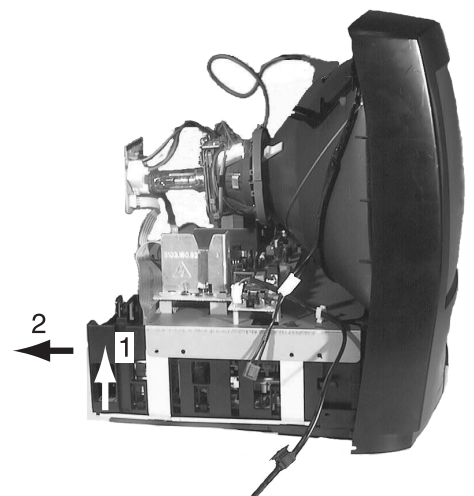

Figure 4-4
8. Lift the TV/VCR unit slightly towards the rear and carefully remove from the device (see figure 4-4).